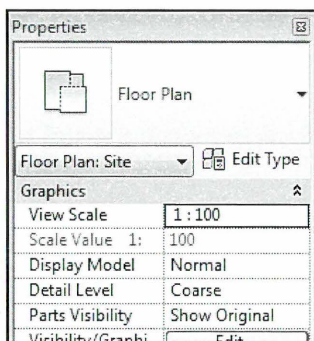

Fig. 10.02. Properties - View Range.
- Tryk *Edit* ud for *View Range* i *Properties* (Fig. 10.02).